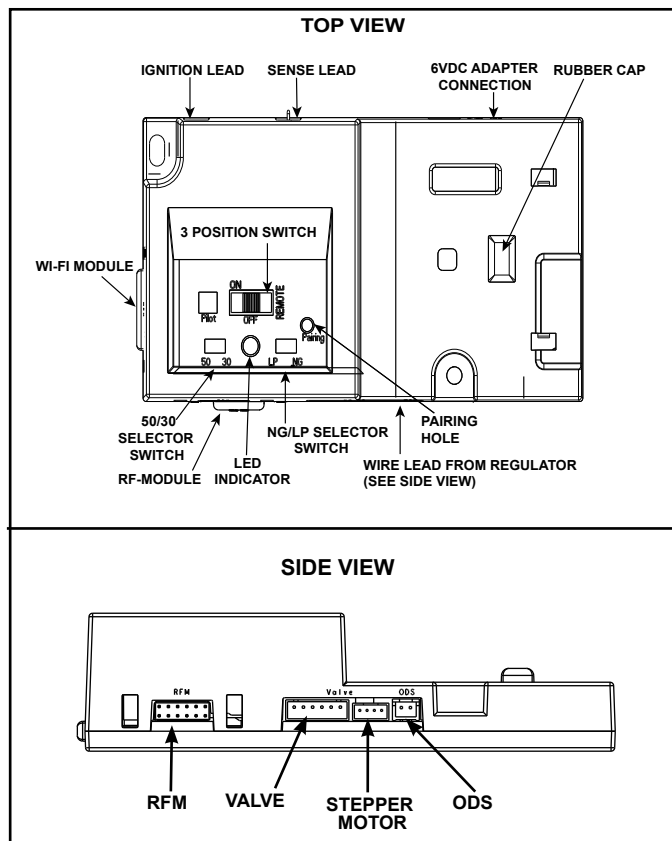

Figure 3.8 IFT-ECM 2.0
1. The Electronic Control Module (IFT2-ECM) has a three-position ON/OFF/REMOTE selector switch that must be set for proper operation. See Figure 3.8. When changing switch positions, it is important to pause in each position for 1-2 seconds.